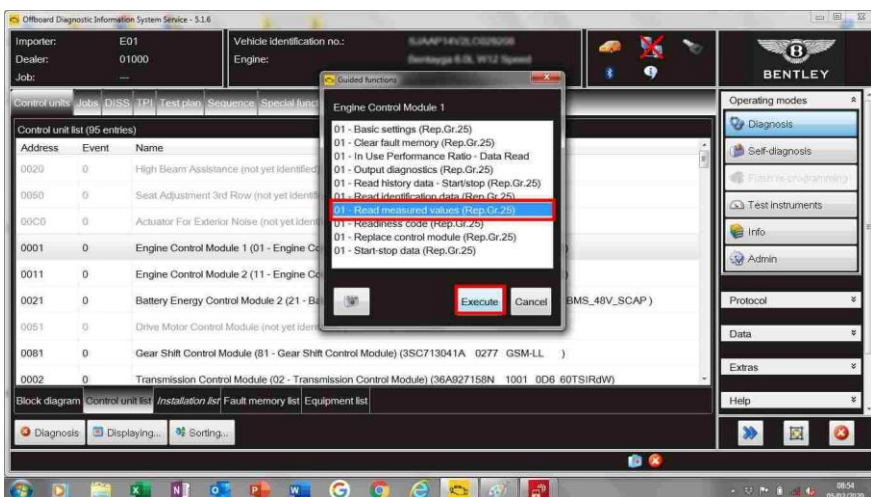

Figure 3
- Select “Read measured values” and then “Execute” – Figure 3.